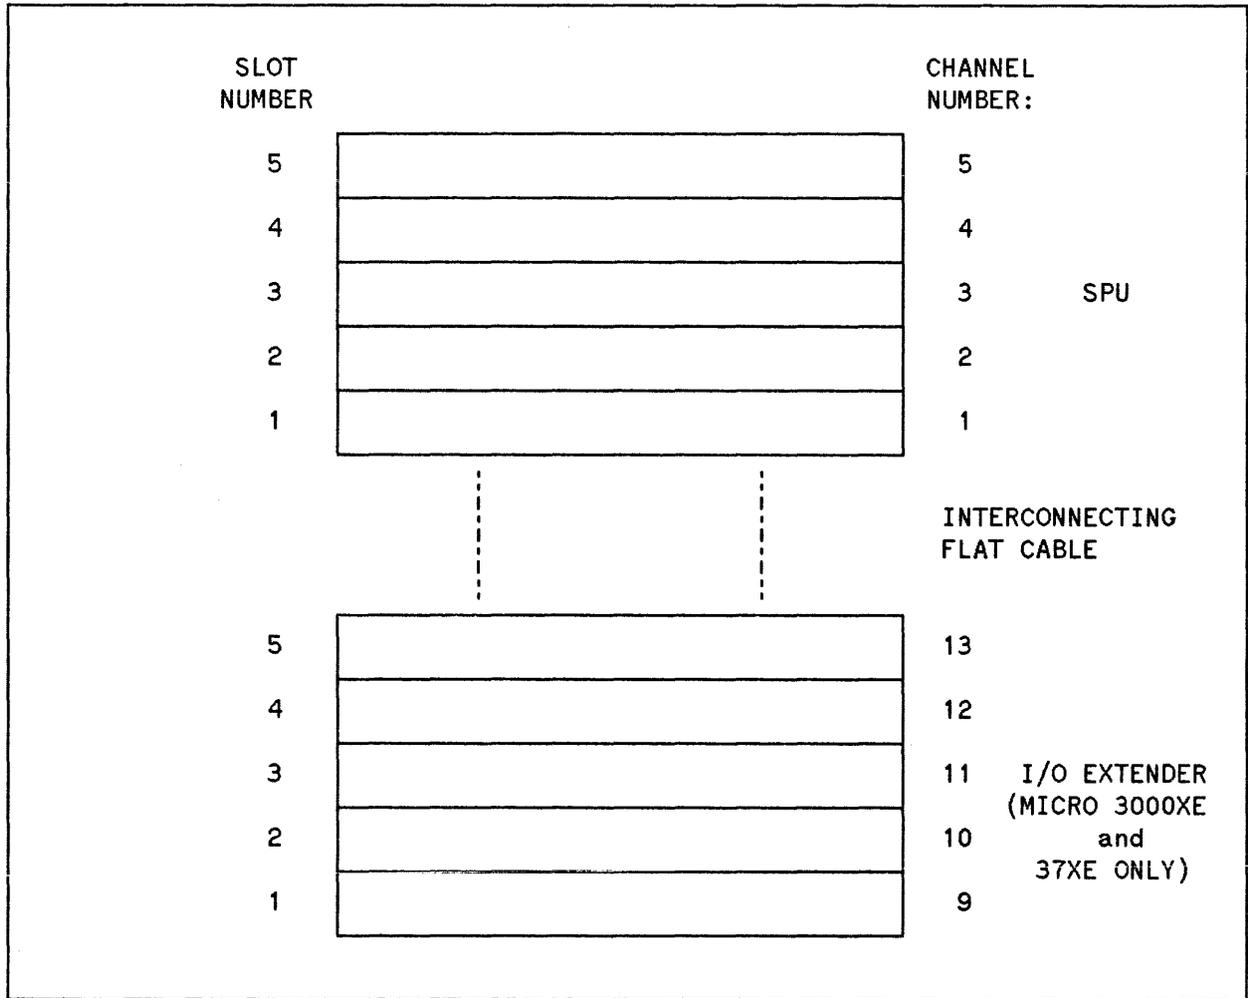

Figure 2-1 MICRO 3000XE and 3000 Series 37 SPU/Extender Slot and Channel Assignments
Figures 2-1 and 2-2 show the channel numbers associated to each slot.
- Take the label marked with the correct slot number (see Figures 2-1 and 2-2) from the adhesive labels provided and stick it on the connector panel for identification.